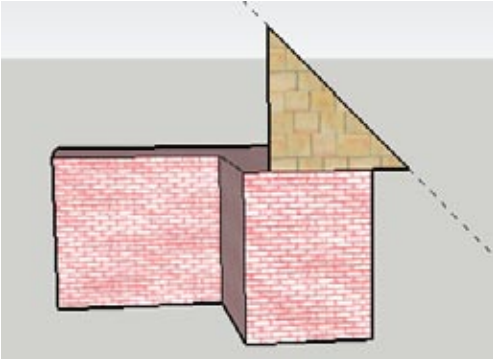

Figure 4-45
4. Use the construction line to create the triangular roof face as shown in Figure 4-45. The face should extend past the midpoint of the front face, so that the profile will not fall short of the center of the widest part of the building.